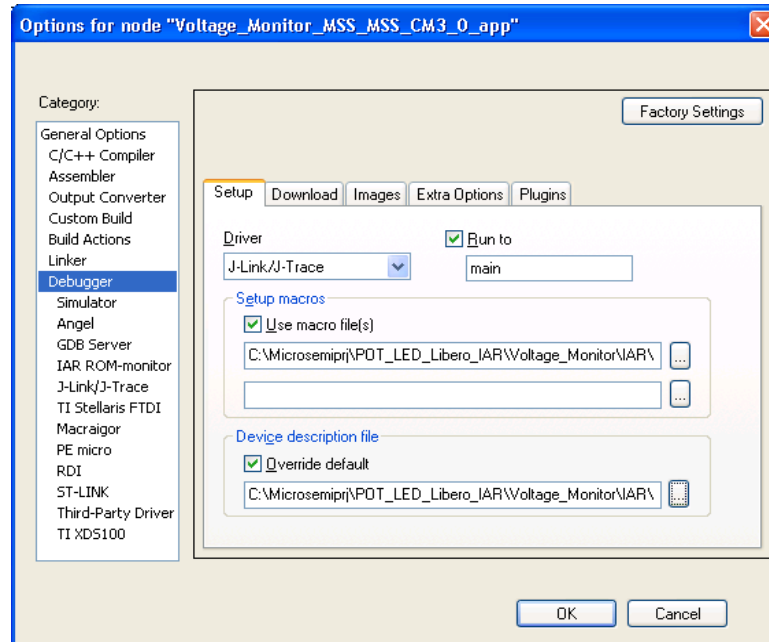

Figure 35 · Setting up Macros for the Debugger
10. Select the **Use macro file(s)** listed under **Setup macros** (see Figure 35 · ). Browse to the Voltage\_Monitor \_MSS\_MSS\_CM3\_0\_hw\_platform.mac file which is available in which is available in C:\Microsemiprj\POT\_LED\_Libero\_IAR\Voltage\_Monitor\IAR folder. The purpose of this file is to remap the ESRAM to the 0th location.
11. Select the **Override default** option listed under the **Device description file** (see Figure 35 · ). Browse to the SmartFusion\_dss.ddf file which is available in C:\Microsemiprj\POT\_LED\_Libero\_IAR\Voltage\_Monitor\IAR folder. DDF files allows user to see the MSS Register map for all peripherals.